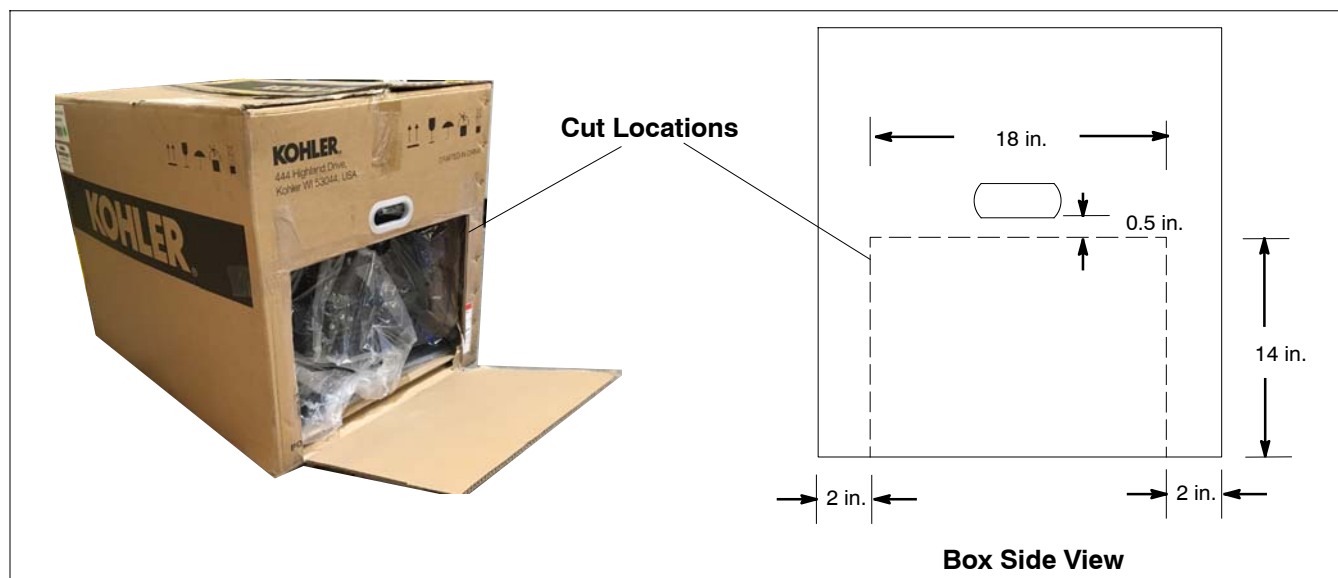

Figure 7 Cut Locations and Dimensions
2. Cut the box following the location and dimensions in Figure 7.